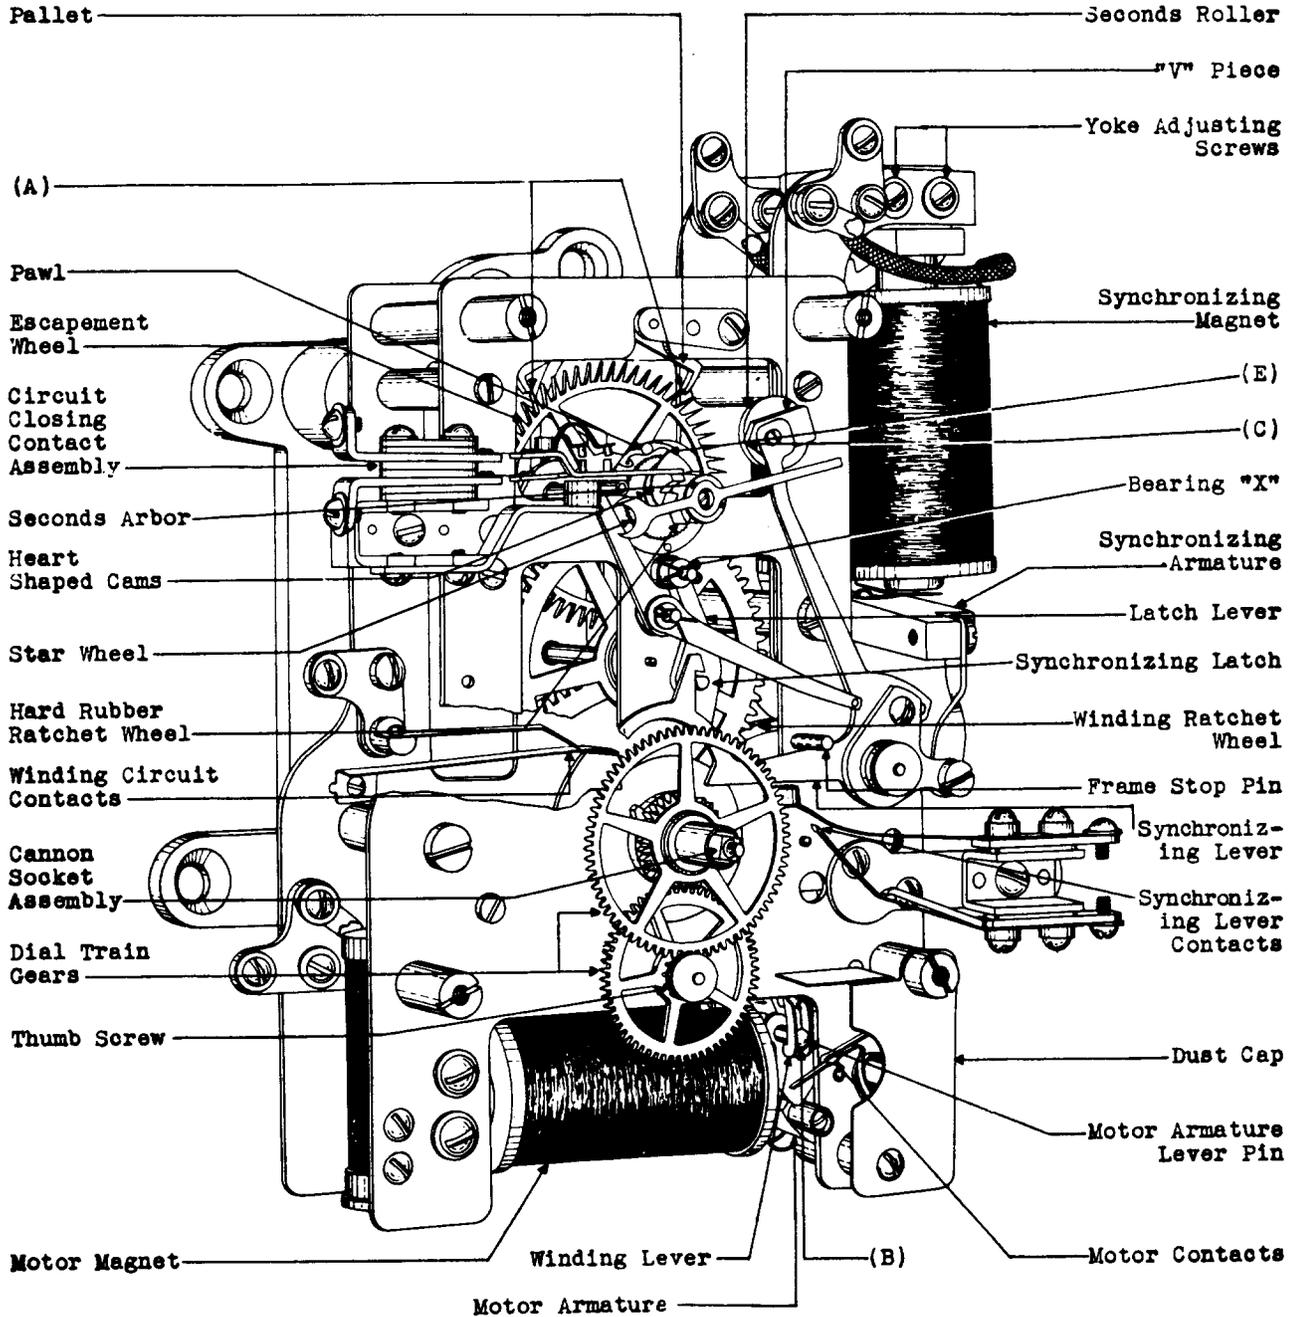

Fig. 1 - General Assembly of typical Mechanism
Both points of contact between the escapement wheel and pallet - Fig. 1 (A).
The point of contact between the motor armature lever pin and the winding lever - Fig. 1 (B).
Each bearing of the synchronizing mechanism - including the seconds roller bearing - except bearing "X" - (Fig. 1).
Point of "V" piece - Fig. 1 (C).
Rim of each of the two heart shaped cams - Fig. 1 (D).
Point of contact between star wheel ratchet and pawl - Fig. 1 (E).